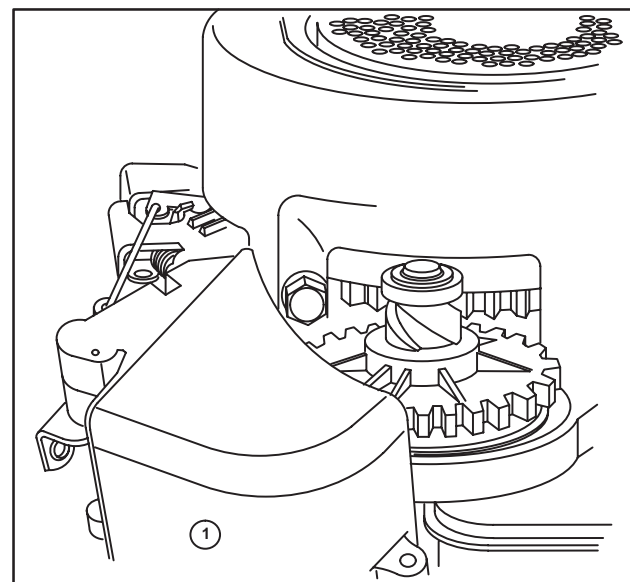

Fig. 118
3. Remove two switch cover screws. On System 4® engines, move cover (1) as shown in Fig. 118. Handle with care to prevent damage to lever caused by link when moving switch cover.